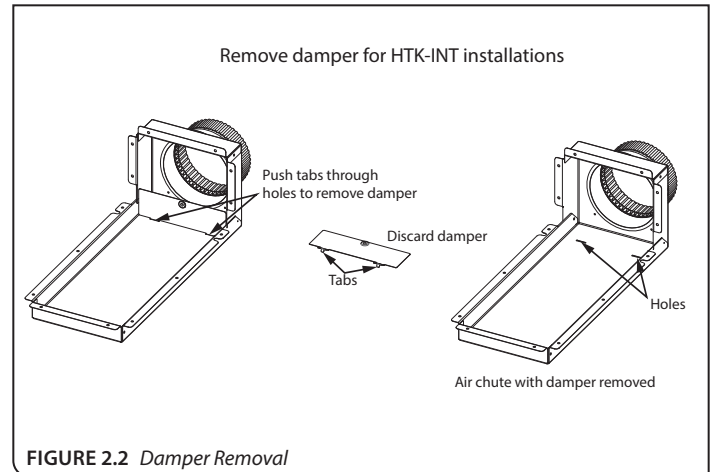
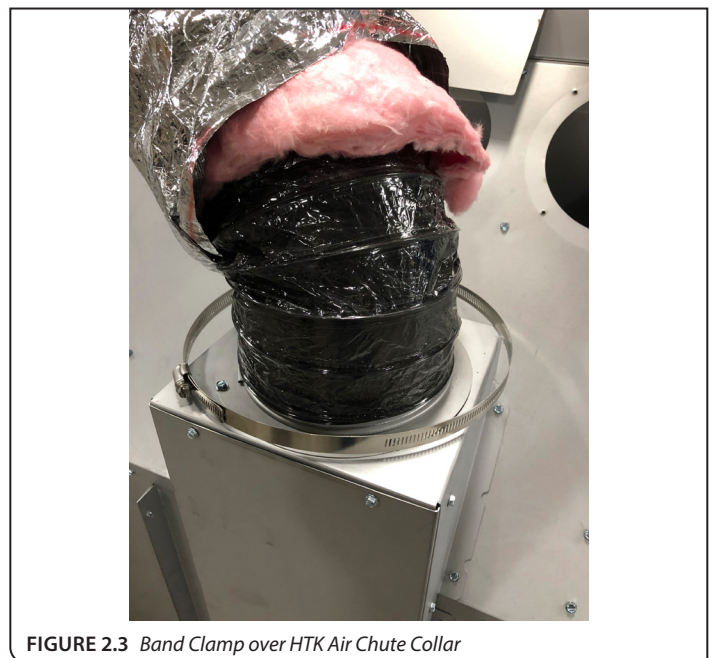

FIGURE 2.2 Damper Removal
FIGURE 2.3 Band Clamp over HTK Air Chute Collar
3. Remove the damper from the heat transfer kit air chute by pushing the metal tab through the hole and pulling the damper out of the air chute. **NOTE:** Air chutes for models #ABY & #Z42 do not have a damper. See **FIGURE 2.2**. Your air chute may look different than the one shown.
4. CLW-ST: There are (2) openings on the HTK-CWST air chute that allow for installing one or two of the same heat transfer kit. If installing (1) kit, remove (1) cover plate to install (1) collar. If installing (2) kits, remove (2) cover plates to install (2) collars.
9. Place the band clamp over the HTK air chute collar. Screw the inner liner of the flexible duct to the collar with (3) sheet metal screws. See **FIGURE 2.3**.